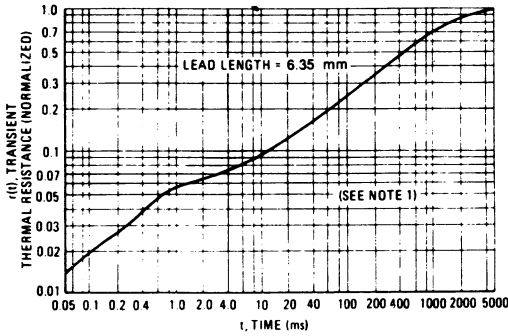

FIGURE 12 - THERMAL RESPONSE
- $r(t)$  = normalized value of transient thermal resistance at time,  $t$ , from Figure 12, i.e.: